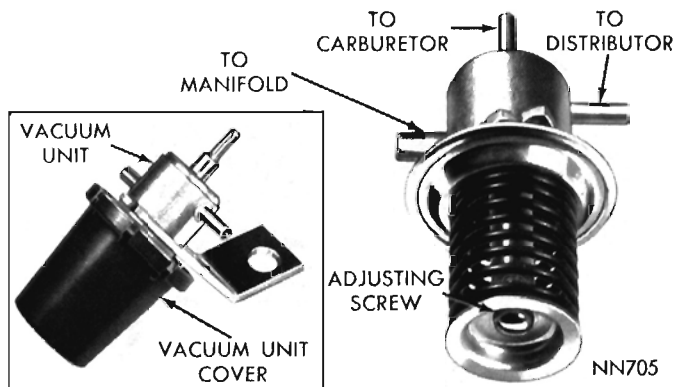

Fig. 1—Distributor Vacuum Control Valve Adjustment
(1) Connect a tachometer to the engine and warm engine up to the normal operating temperature.
(2) Connect a vacuum gage (0-30 in. mercury) to the distributor vacuum tube. The tee should have the same inside diameter as the distributor vacuum tube.
(3) If the carburetor is equipped with a dash pot, adjust it so that it does not contact the throttle lever at curb idle.
(4) Clamp closed the vacuum tube that connects the vacuum valve to manifold vacuum.
(5) Remove the distributor vacuum tube at the distributor and clamp the tube closed.
(6) Set the basic ignition timing to manufacturers specifications (5° ATC). The curb idle speed must be at the specified rpm before the timing is adjusted.
(7) Adjust carburetor to obtain the specified engine speed and exhaust emission level. The distributor vacuum must be below 6 in. of mercury at curb idle.
(8) Remove the clamps from the vacuum tubes and reconnect vacuum tube to the distributor. Remove vacuum valve cover (Fig. 1).
(9) Speed engine up to 2000 rpm in neutral and hold speed for approximately 5 seconds. Release throttle and observe distributor vacuum. When the throttle is released, the distributor vacuum should increase to above 16 inches of mercury and remain there for a minimum of 1 second. The distributor vacuum must fall below 6 inches of mercury within 3 seconds after the throttle is released.
(10) Adjust valve if necessary. Turning the spring end adjusting screw counterclockwise will increase the time the distributor vacuum remains above 6 inches of mercury after the throttle is released. One turn of the adjusting screw will change the valve setting by approximately ½ inch of mercury. If the valve cannot be adjusted to the specifications described in Step No. 9, replace valve (Fig. 1).
(11) Replace vacuum valve cover. Reset the carburetor dash pot (if so equipped) and check valve performance as outlined in step no. 9. If the distributor vacuum does not fall below 6 inches of mercury within 4 seconds after the throttle is released, readjust or replace the dash pot.